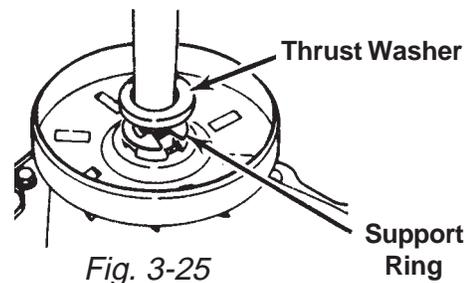

Fig. 3-25
3. To remove the entire clutch assembly, begin by removing the spin tube thrust washer up and off the agitator shaft and then remove the support ring. (Fig. 3-25)